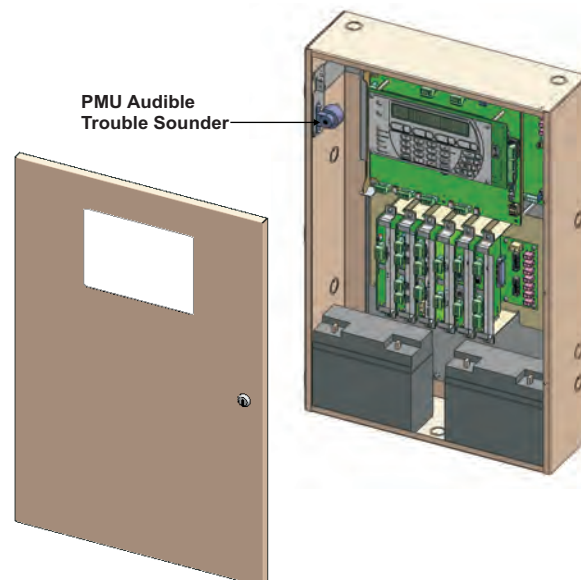

Figure H-2. The Retrofitted Enclosure with FenwalNET 8000-ML Electronics Installed
11. Place the Audible PMU Trouble Sounder bracket assembly over the stud (oriented as shown in Figure H-2).